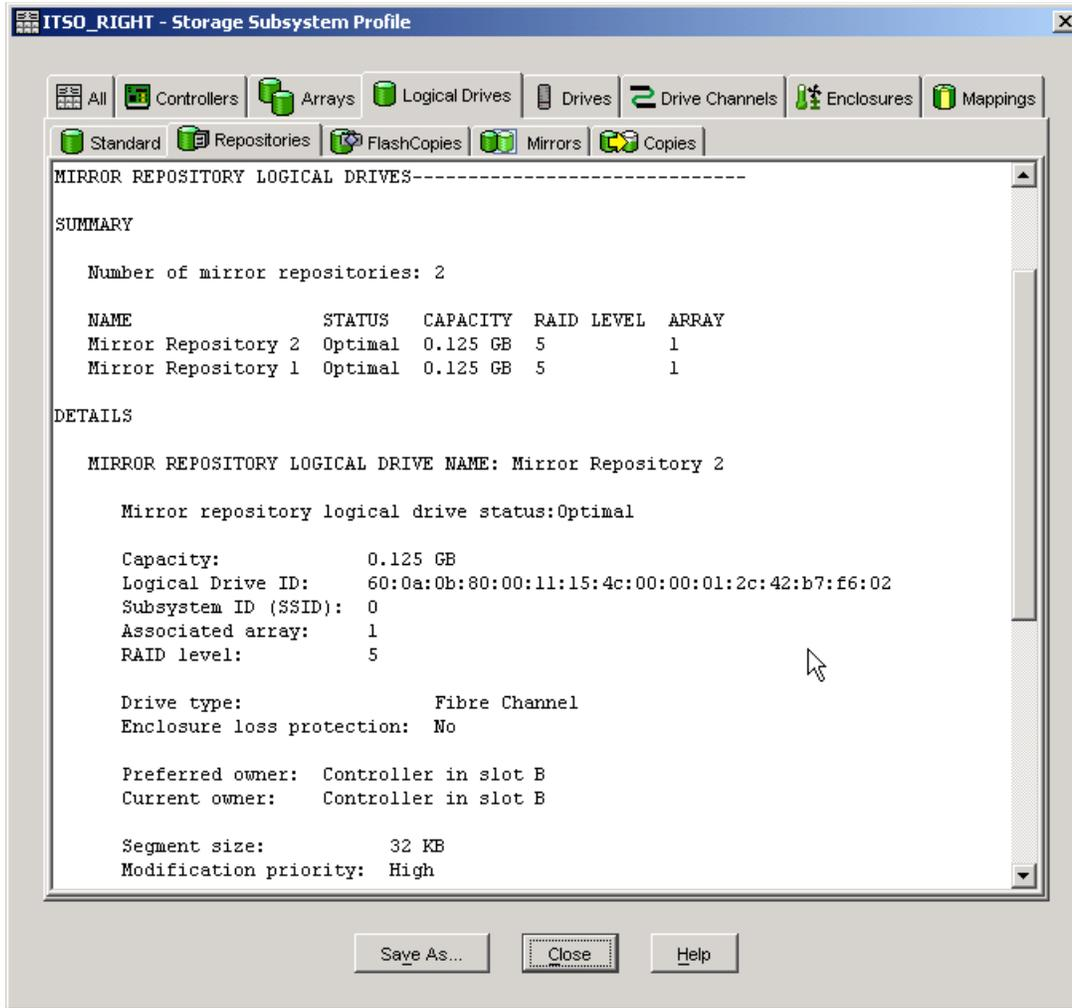

Figure 8-40 Storage Subsystem Profile: Repositories tab
- The Repositories tab contains a section of logical drive information that displays FlashCopy and mirror repository logical drive properties. See Figure 8-40.